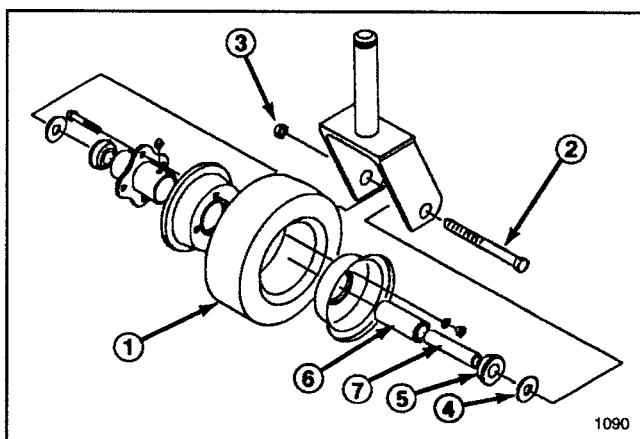

Figure 13
1. Remove lock nut and wheel bolt holding castor wheel between castor fork (Fig. 13).
4. Inspect bearing, spanner, bushing and inside of wheel hub for wear. Replace defective parts (Fig. 13).
5. To assemble place one (1) bushing into wheel hub. Grease bearing and spanner bushing and slide into wheel hub. Place second bushing into wheel hub.